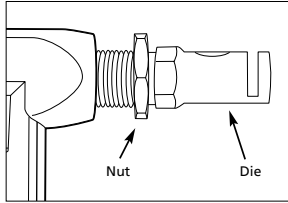

Figure 2
2. To change cutter and die, loosen thin, silver nut to allow the die to be removed from tool (Figure 2).